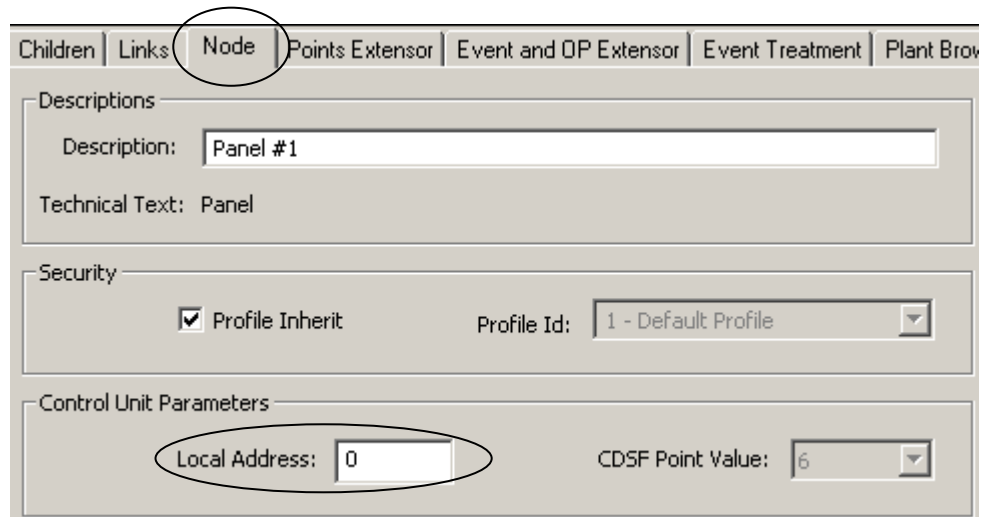

Fig. 15 Setting CDSS mode (subtype) and the unit Local Address
2. Click the **Node** tab (see Fig. 15).